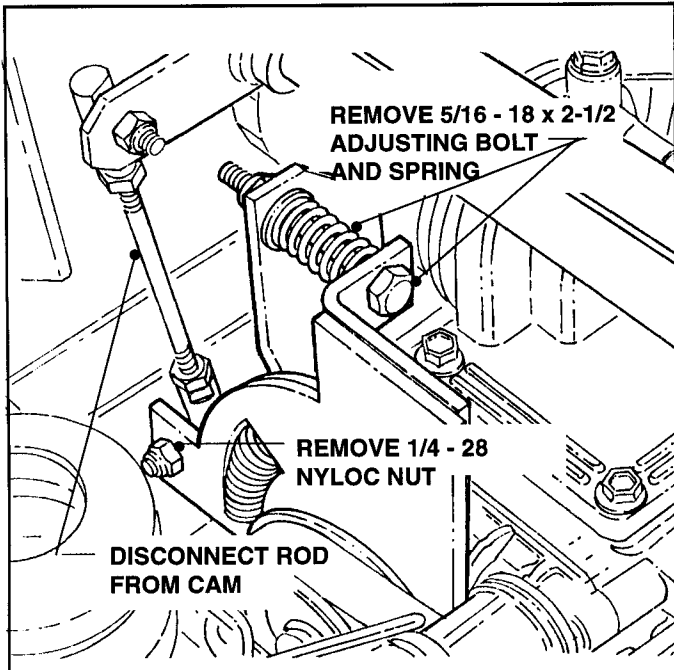

FIGURE 6.6
- B. Remove the 1/4 - 28 Nyloc Nut from the Control Rod on the Neutral Return Cam. Disconnect Rod from Cam. See Figure 6.6.
- C. Remove the 5/16 - 18 x 2-1/2" Neutral Return Adjusting Bolt and Spring. Refer to Figure 6.6.